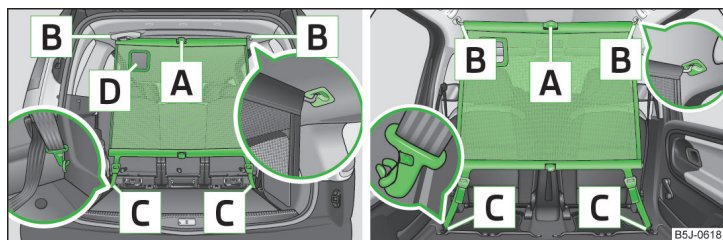

Fig. 67 Using the net partition behind the front/rear seats
- First insert the rod into the mount **B** » Fig. 67 on one side and push it forwards. In the same way, insert the cross rod into the mount **B** on the other side of the vehicle.
- Undo the belts on both sides and unhook the carabiners **C** » Fig. 67.
- Press the red button on hinge **A** » Fig. 67 - the hinge breaks.
Installing and removing the net partition behind the rear seats is carried out in the same way as behind the rear seats. Use the fixing eyes behind the front seats in order to attach the carabiners **C** » Fig. 67. To enlarge the boot, the rear seats can be removed.
Installing and removing the net partition behind the rear seats with variable loading floor » page 76 is carried out in the same way as behind the rear seats without variable loading floor. To attach the carabiners **C** » Fig. 67, use the lower fixing eyes on the fixing wedges in the front area of the variable loading floor.